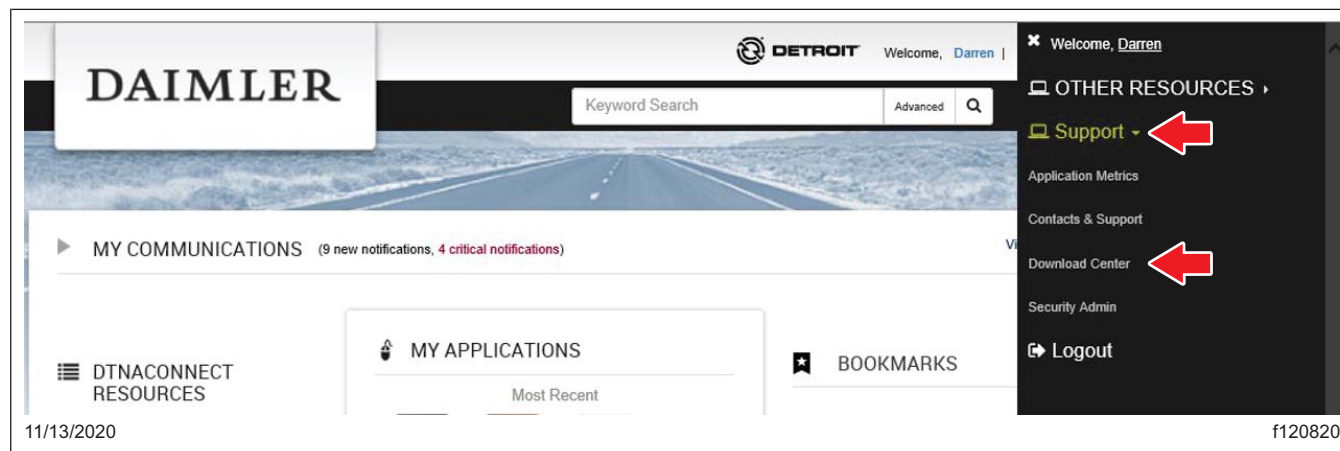

Fig. 4, Selecting Download Center
- Select 'Support,' and then select 'Download Center.' See Fig. 4.